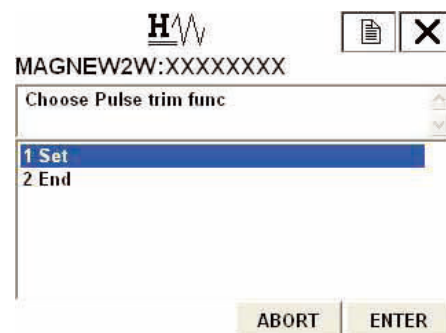

Figure 7-65
4. Figure 7-65 will then appear. When executing the adjustment, select "SET", and then press F4 (ENTER).
5. A numerical value input display (Figure 7-66) will then appear. Measure the pulse frequency from the converter and enter the frequency by the Hz into the device. Once the input has been completed press F4 (ENTER). The converter will start adjusting to 90 Hz automatically, and return back to the display as shown in Figure 7-65. Verify that the pulse output is 90Hz, and terminate the adjustment.